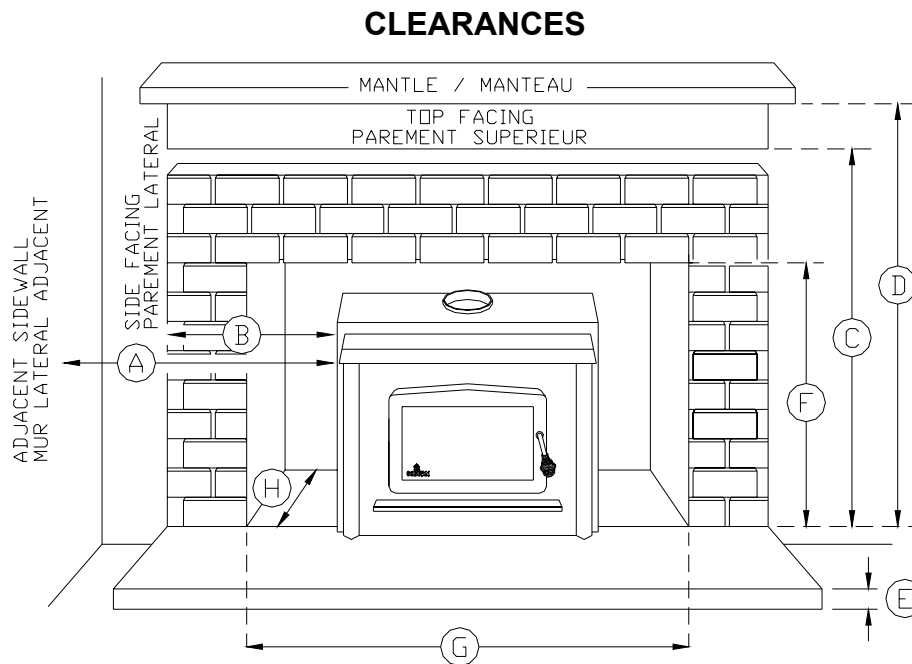

Figure 1
2. Where lesser clearances are desired, consult your local authority as regulations may vary regarding the use of clearance reducing devices. Listed wall and floor shields are available to reduce clearances, and most building codes provide information on materials which may be used to reduce clearances (see Figure 1).